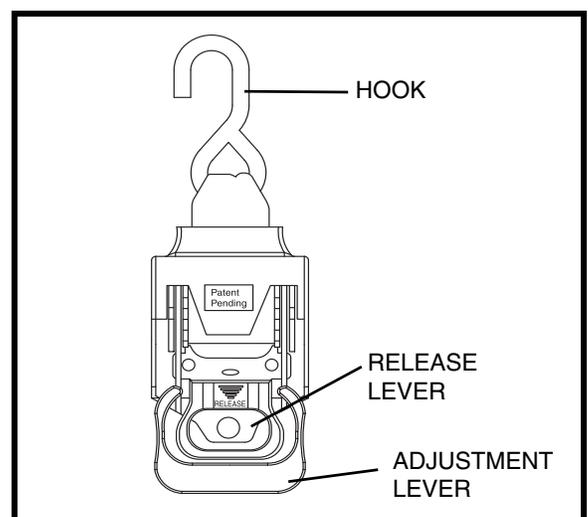

Figure 12. Retractable Tie-down Strap
3. Secure the mobility device to the platform using either the retractable tie-down straps (see figure 12) for power chairs or the automatic lock-down arm for scooters.
- Squeeze together the release and adjustment levers on the retractable tie-down strap and simultaneously bring both levers forward to a 90-degree position until they “click” into place. See figures 12 and 13. This will unlock the tie-down strap.
- Once each strap is secured in the proper position, squeeze together the release and adjustment levers and simultaneously bring both levers rearward to their original positions. See figures 12 and 15. This will lock the tie-down strap.